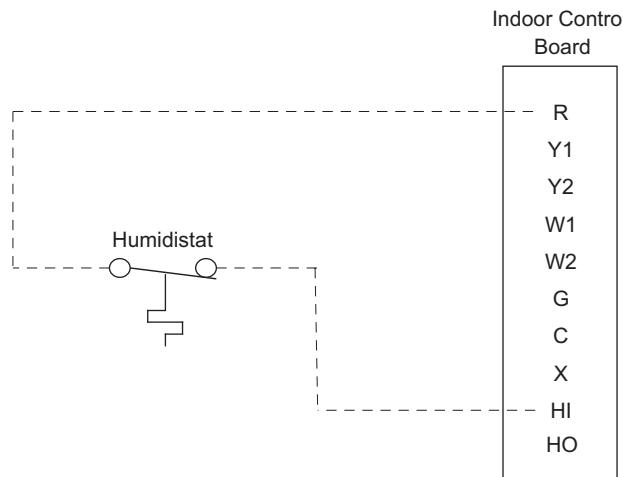

Fig. 30 — Humidistat Connections to IDC
2. Connect one of the leads from the 2-conductor cable to the HI terminal on the IDC (Indoor Control Board) on the outside of the control Box. Connect the other lead to the R terminal on the IDC on the outside of the control box as shown in Fig. 30.